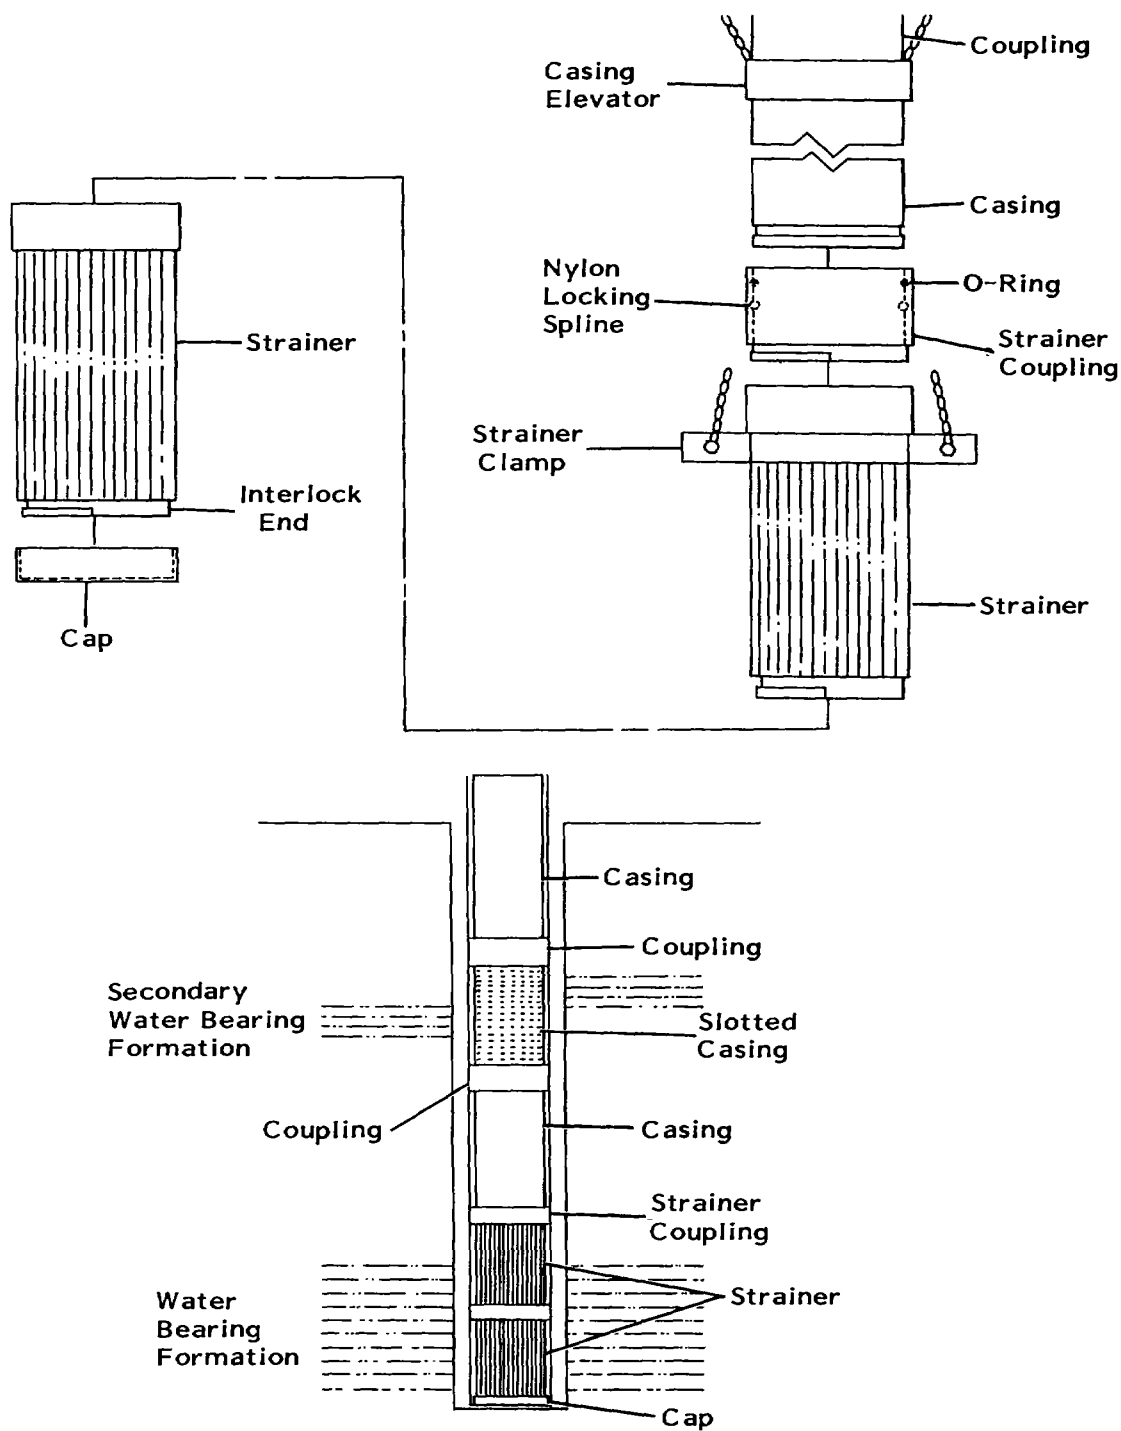

Figure 2-45. Setting Well Casing
- b. Cut the interlocking end from a section of strainer (See figure 2-45). Bond a cap to the cut end of the strainer.
In the event there is a second water bearing formation above, sections of slotted casing (see figure 2-45) may be substituted for regular casing at that point. Slotted casing is similar to strainers, except that slotted casing does not provide as effective filtration as the strainers.